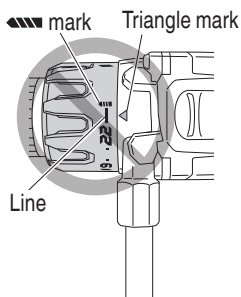

Fig. 15
- Do not use with the clutch dial set at the line between the number "22" and the drill mark "▨▨▨". Doing so may cause damage (See Fig. 15).